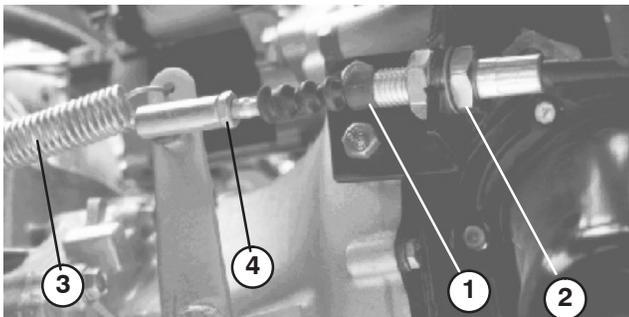

Figure 61
1. Loosen the jam nuts securing the clutch cable to the bracket on the bell housing (Fig. 61).